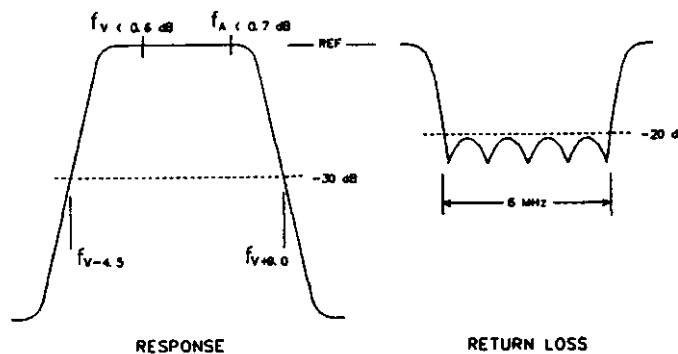
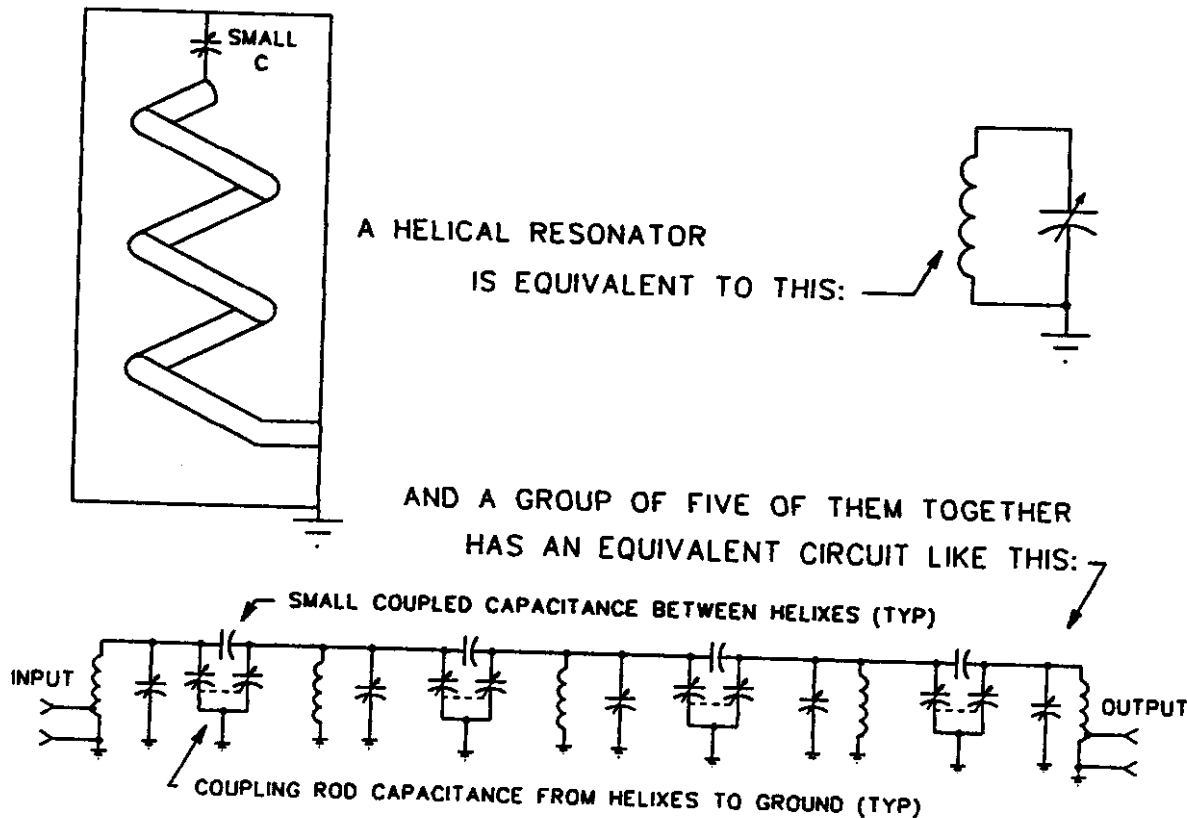

Figure 1: 5-Pole Bandpass Filter Curves.
Figure 2: Typical 5-Pole Bandpass Filter.
2. RF Preamplifier 10A1453G5 (Low Band) and 10A1453G4 (High Band): Figures 2 and 6.
The desired response shape is presented as Figure 1 below, and the filter electrical equivalents are presented on the next page as Figure 2. When we examine the assembly, and take capacitances into account, the equivalent circuit of a helical resonator becomes simply a parallel resonant LC tank circuit having low (trimmer) capacitance and relatively high inductance. Adjustment of the trimmer produces a change of capacitance, and the trimmer's moveable slug is shaped to appear as a shorted turn, which alters the inductance of the helix.
For system use, the tuning and coupling is adjusted for a flat topped response with steep sides, and the desired shape is such that $f_v - 4.5$ MHz and $f_v + 9.0$ MHz are both 30 dB down, but the carriers must be $f_v < 0.6$ dB and $f_A < 0.7$ dB departure from flatness. Input and output return loss must be 20 dB or better over the full 6 MHz bandwidth. These idyllic sweep curves are shown below as Figure 1.